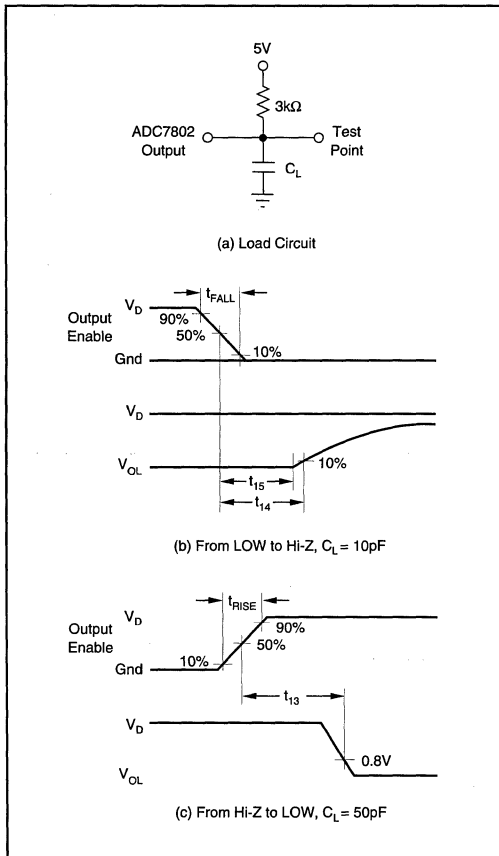

FIGURE 7. Measuring Active LOW to/from Hi-Z State.
NOTES: (1) All input control signals are specified with $t_{\text{RISE}} = t_{\text{FALL}} = 20\text{ns}$ (10% to 90% of 5V) and timed from a voltage level of 1.6V. Data is timed from V_{IH} , V_{IL} , V_{OH} or V_{OL} . (2) The internal RD pulse is performed by a NOR wiring of CS and RD. The internal WR pulse is performed by a NOR wiring of CS and WR. (3) Figures 7 and 8 show the measurement circuits and pulse diagrams for testing transitions to and from Hi-Z states.